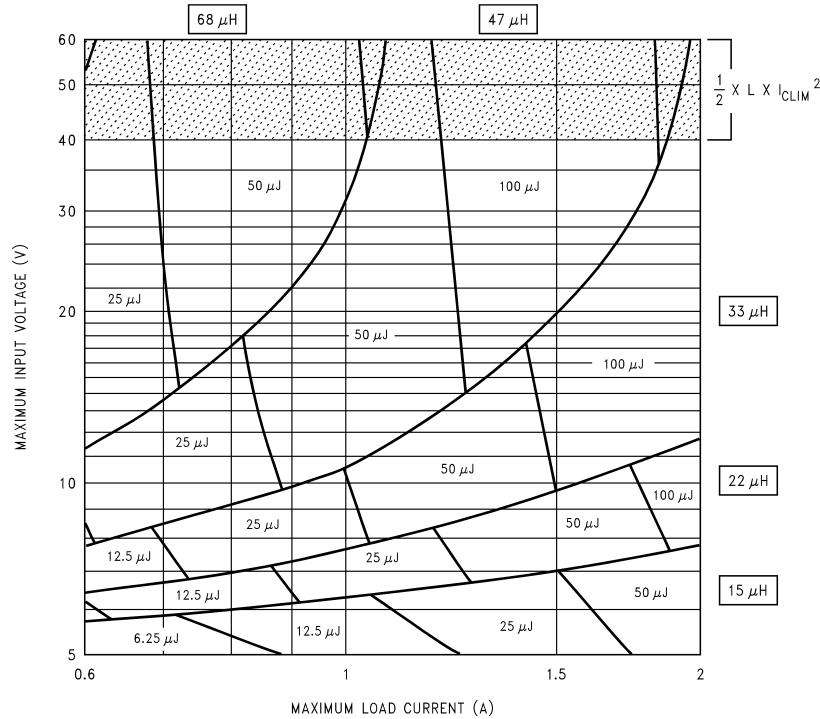
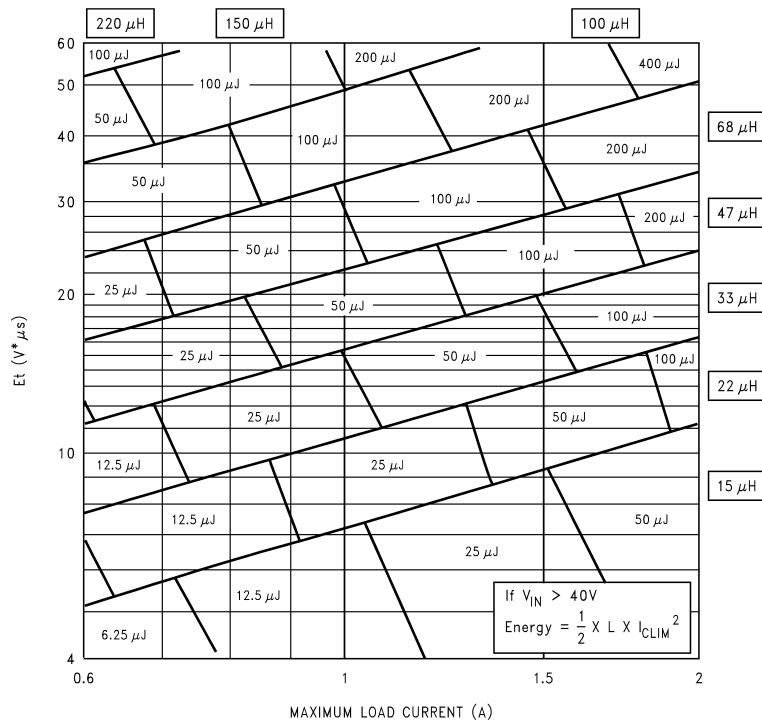

Figure 25. LM2592HV-3.3
Figure 27. LM2592HV-ADJ
Application Note AN-1197 titled "Selecting Inductors for Buck Converters" provides detailed information on this topic. For a quick-start the designer may refer to the nomographs provided in Figure 25 to Figure 27. To widen the choice of the Designer to a more general selection of available inductors, the nomographs provide the required inductance and also the energy in the core expressed in microjoules (μJ), as an alternative to just prescribing custom parts. The following points need to be highlighted:
5. Figure 27 shows the inductor selection curves for the Adjustable version. The y-axis is 'Et', in $\text{V}\mu\text{secs}$. It is the applied volts across the inductor during the ON time of the switch ($V_{\text{IN}} - V_{\text{SAT}} - V_{\text{OUT}}$) multiplied by the time for which the switch is on in μsecs . See Example 3.
1. Since input voltage is less than 40V, a first pass inductor selection is based upon Inductance and rated max load current. We choose an inductor with the Inductance value indicated by the nomograph Figure 27 and a current rating equal to the maximum load. But we first need to calculate Et for the given application. The Duty cycle is
Therefore, looking at Figure 25 we quick-select a 47 μ H/2A inductor (designed for 150 kHz operation) for this application.
2. We should confirm that it is rated to handle 200 μ J (see Figure 27) by the procedure shown in AN-1197 and that the losses are acceptable. (If the DC Input voltage had been greater than 40V we would need to consider e_{CLIM} as in Example 2).